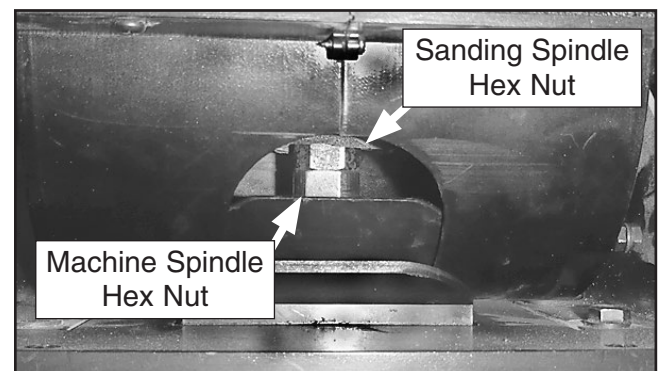

Figure 13. Spindle hex nut.
3. Insert 22mm and 17mm wrenches through access panel beneath table (see **Figure 13**) and onto machine spindle and sanding spindle hex nuts. Tighten sanding spindle by turning counterclockwise when looking down on the spindle.